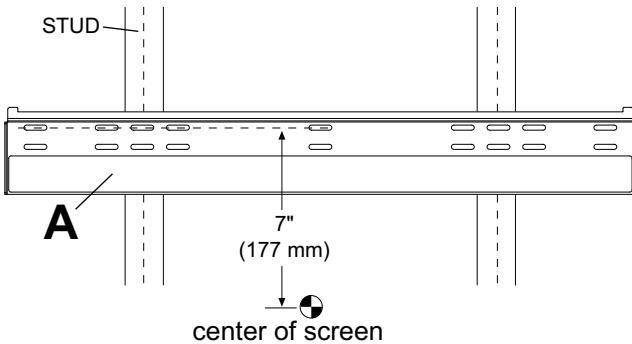
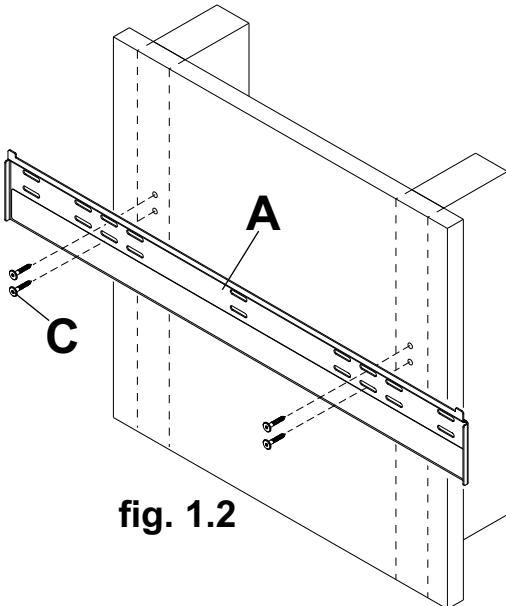

fig. 1.1
fig. 1.2
**1** Wall plate (A) can be mounted to two studs that are 20" or 24" apart or three studs that are 16" apart. Use a stud finder to locate the edges of the studs. Use of an edge-to-edge stud finder is highly recommended. Based on their edges, draw a vertical line down each stud's center. Place wall plate on wall as a template. The mounting slots should be located 7" (177 mm) above the desired screen center as shown in figure 1.1. Level plate, and mark the center of the each mounting hole. Make sure that the mounting holes are on the stud centerlines. Drill four 5/32" (4 mm) dia. holes 2" (51 mm) deep when securing to two studs or six 5/32" (4 mm) dia. holes 2" (51 mm) deep when securing to three studs. Make sure that the wall plate is level, secure it using a wood screw (C) for each mounting hole as shown in fig. 1.2 or 1.3.
- 1** Make sure that wall plate (**A**) is level, use it as a template to mark six mounting holes. The top mounting slots should be located 7" (177 mm) above the desired screen center as shown in figure 1.1 page 4. Drill six 5/16" (8 mm) dia. holes to a minimum depth of 2.5" (64 mm). Insert anchors (**D**) in holes flush with wall as shown (right). Place wall plate over anchors and secure with six wood screws (**C**). Level, then tighten all fasteners.